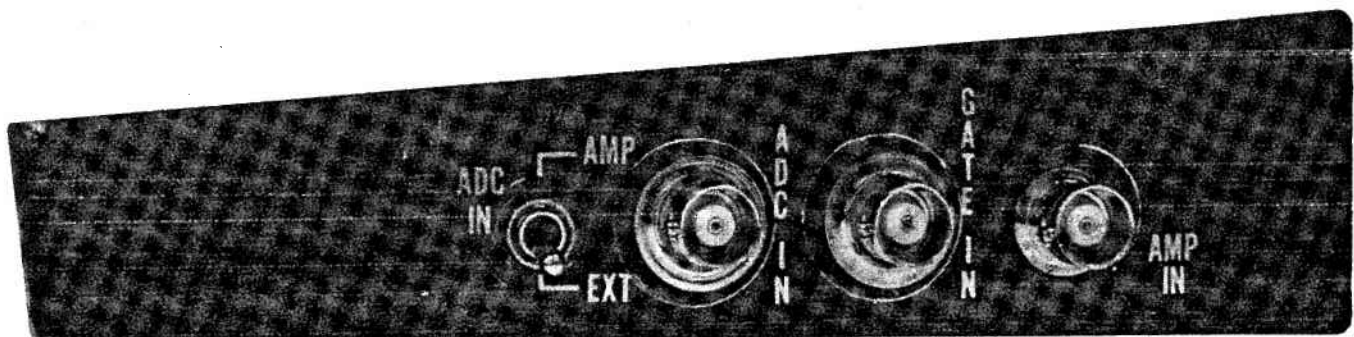

Figure 2-2
5. Press YES (in answer to the question OK?) to have the new values accepted and the system revert to a normal display (Figure 2-2).
Figure 2-2 illustrates the three BNC type signal connectors. Two of these, labeled ADC IN and AMP IN, are analog signal inputs. The other connector, labeled GATE IN, accepts logic signals to condition the ADC to either accept or reject analog signals for conversion. See Section 2.6, following, for information concerning use of the GATE input.